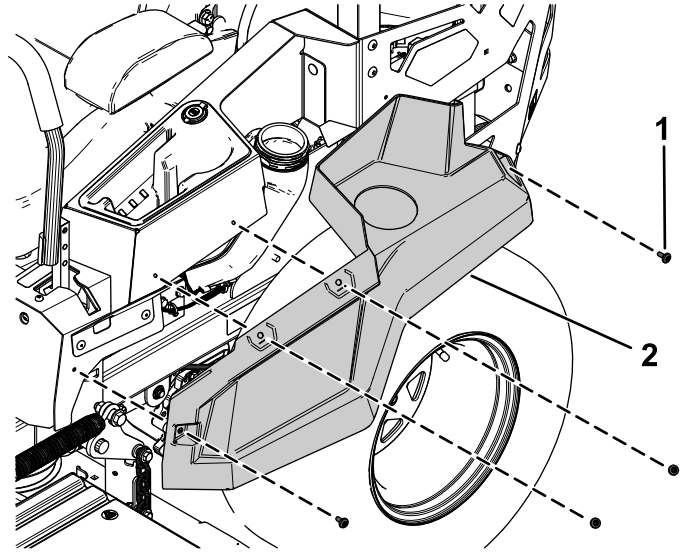

Figure 4
2. Remove the 4 shoulder screws securing the left side pod and remove the left side pod (Figure 4).